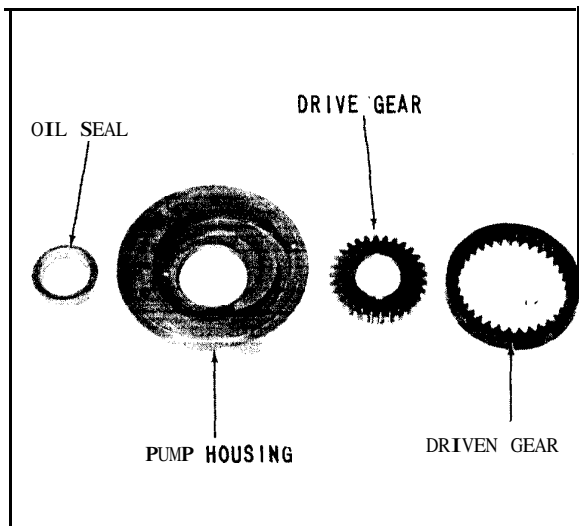

Fig. 62 Front Pump Parts for Assembly 71C-A60
57. Collect the parts shown in (Fig. 62) and check carefully for the following;